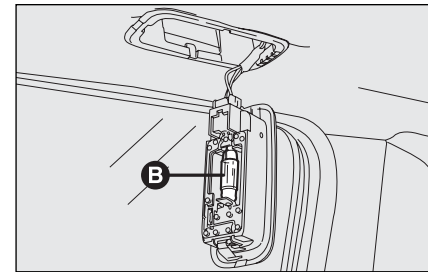

fig. 48
- replace the bulb **B**-fig. 48 releasing it from the side contacts making sure that the new bulb is correctly clamped between the contacts.